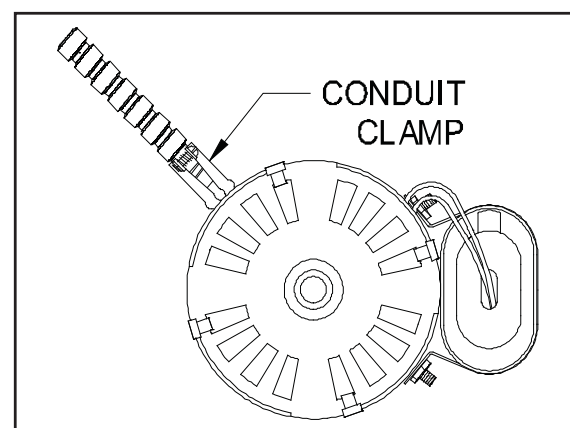

Figure 2
2. Remove the clamps from the conduit and motor and disconnect the motor lead wires from the control kit. (See Figure 2) Attach a "pull" or "fish" wire to the motor lead wires on the control kit side to use to pull the leads from the new repair kit motor through the conduit during reassembly.